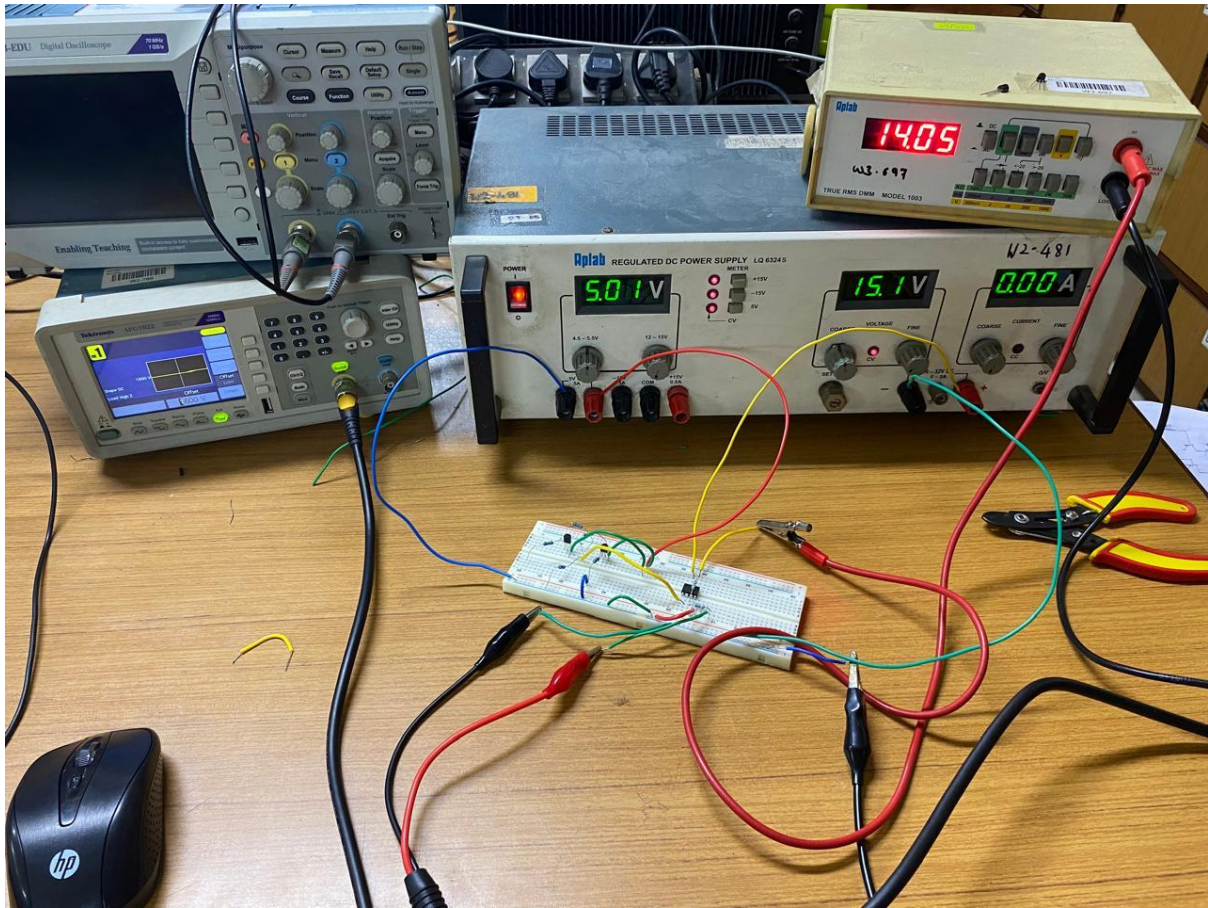

Fig 2
- If q1 base terminal is grounded and q2 base terminal is not grounded then also the motor is turn on. (refer fig 2)